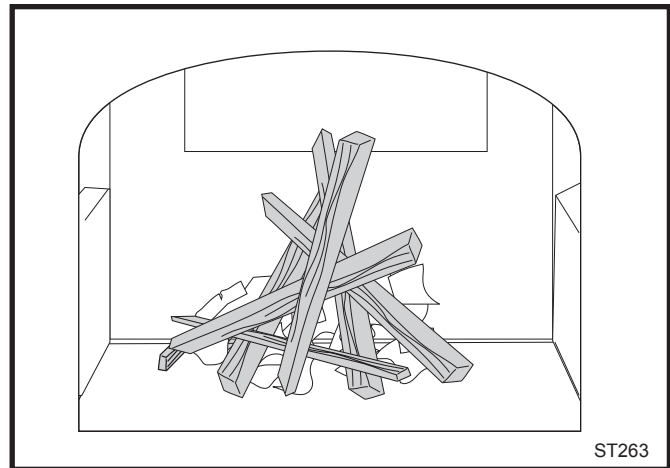

Fig. 39 Start the fire with newspaper and dry kindling.
2. Place several sheets of crumpled newspaper in the stove. Do NOT use glossy advertisements or colored paper, as they can poison the catalyst. Place on the paper six or eight pieces of dry kindling split to a finger-width size, and on the kindling lay two or three larger sticks of split dry wood approximately 1-2" (25-50 mm) in diameter. (Fig. 39)